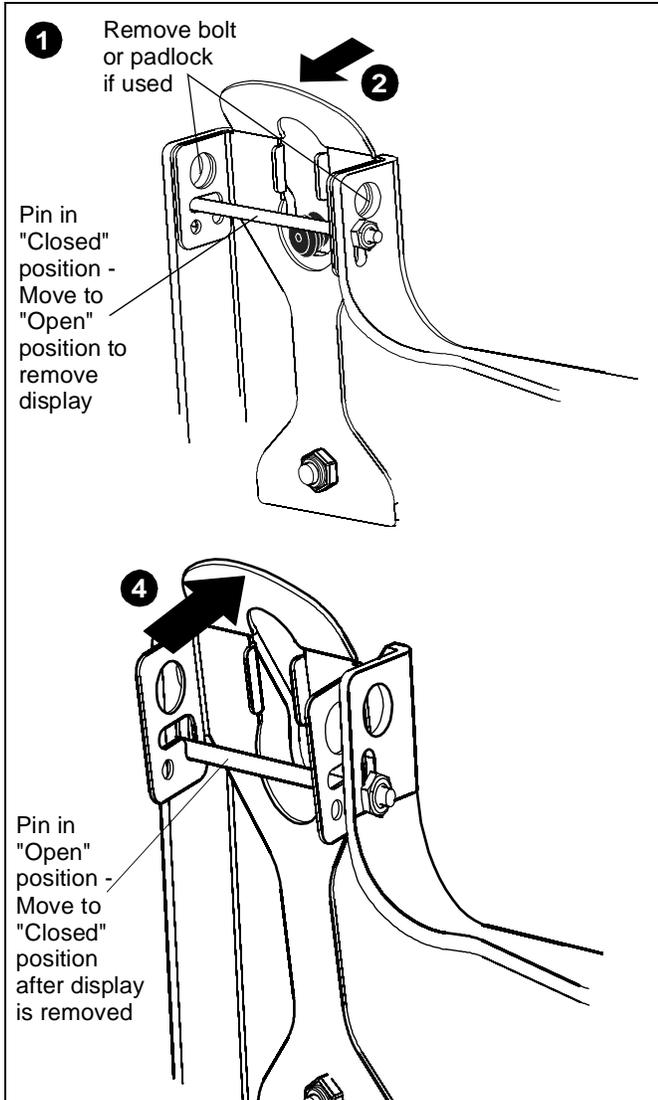

Figure 13
2. Remove bolt or padlock from faceplate (if used). (See Figure 13)
3. Pull back on flag on upper mounting hole and press pin down into "Open" position. (See Figure 13)
5. Lift up on pin and place flag back against faceplate to return it to "Closed" position. (See Figure 13)